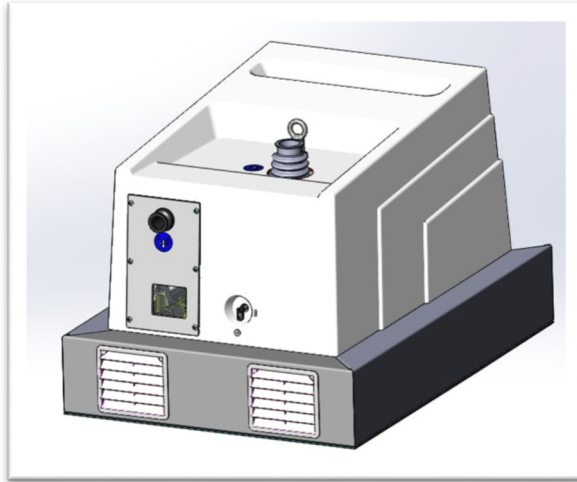

Figure 3 MS120 pump with Noise Abatement Panel, Long and Front
- 3 Install the Noise Abatement Panel, Front (with the two grids) under the pump, opposite to the pump side with the grids, as shown in figure 3: